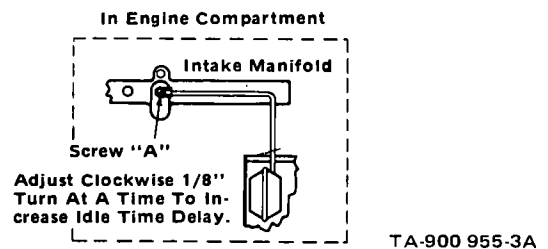

Figure 9-4. Idle Control Time Delay Adjustment
### 9-6. IDLE CONTROL TIME DELAY ADJUSTMENT (Figure 9-4)
Operation of the idling device is automatic when the IDLE CONTROL switch is in the AUTOMATIC IDLE position. When the engine is started, engine rpm will remain at idle until an arc is established, at which time the engine immediately comes up to weld rpm. When the arc is broken, a time delay will exist before the engine begins to return to idle rpm. The length of this time delay is controlled by the setting of Screw "A" in Figure 9-4. This screw is located on the vacuum line fitting going into the intake manifold of the engine. Figure 9-4 shows the adjustment of this screw.
8. Place the IDLE CONTROL switch in the AUTOMATIC IDLE position. Operation of the idling device is automatic when the IDLE CONTROL switch is in the AUTOMATIC IDLE position. Once the engine is started, engine rpm will remain at idle until an arc is established, at which time the engine immediately comes up to weld rpm. When the arc is broken, a time delay will exist before the engine begins to return to idle rpm. The length of this time delay is controlled by the setting of the time-delay screw "A" in Figure 9-4. If the engine does not go to idle rpm after about ten seconds, adjust the time-delay screw (A) for the desired time delay. This screw is located on the vacuum line fitting going into the intake manifold of the engine. Figure 9-4 shows the adjustment of this screw.
9. When the engine has gone to idle rpm, adjust screw (16) until 1050 rpm is obtained.